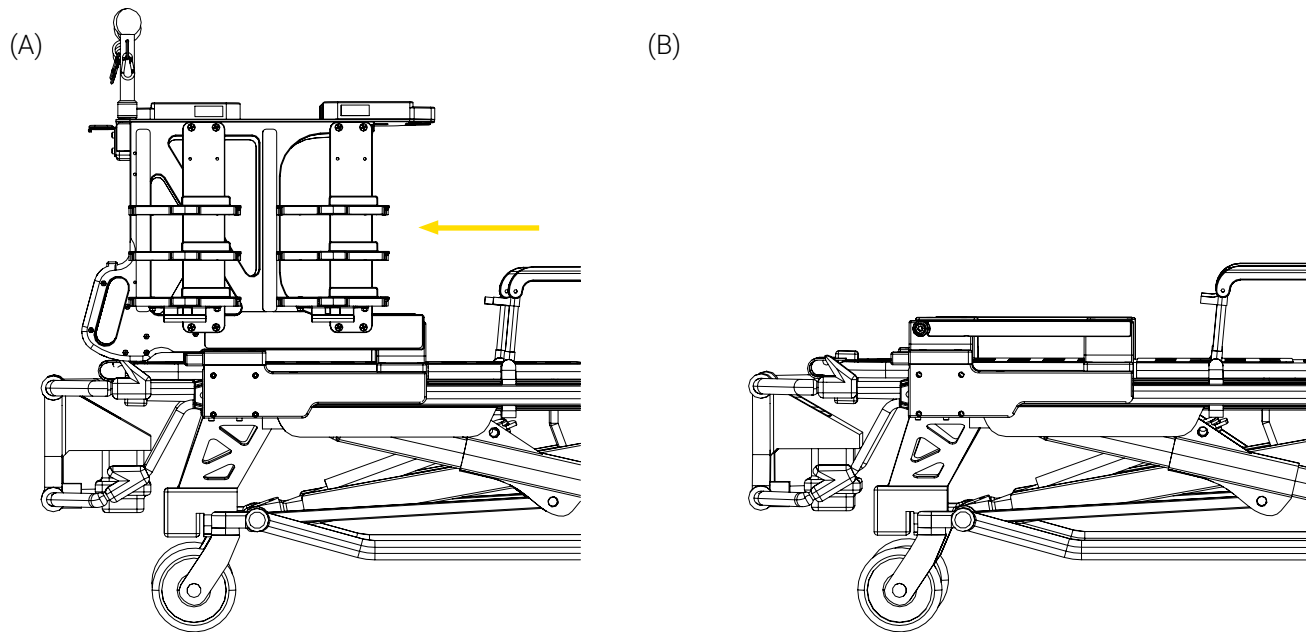

Figure 29: Removing the mobile structure
13. Pull the mobile structure towards the patient foot end until it has been removed (Figure 29).